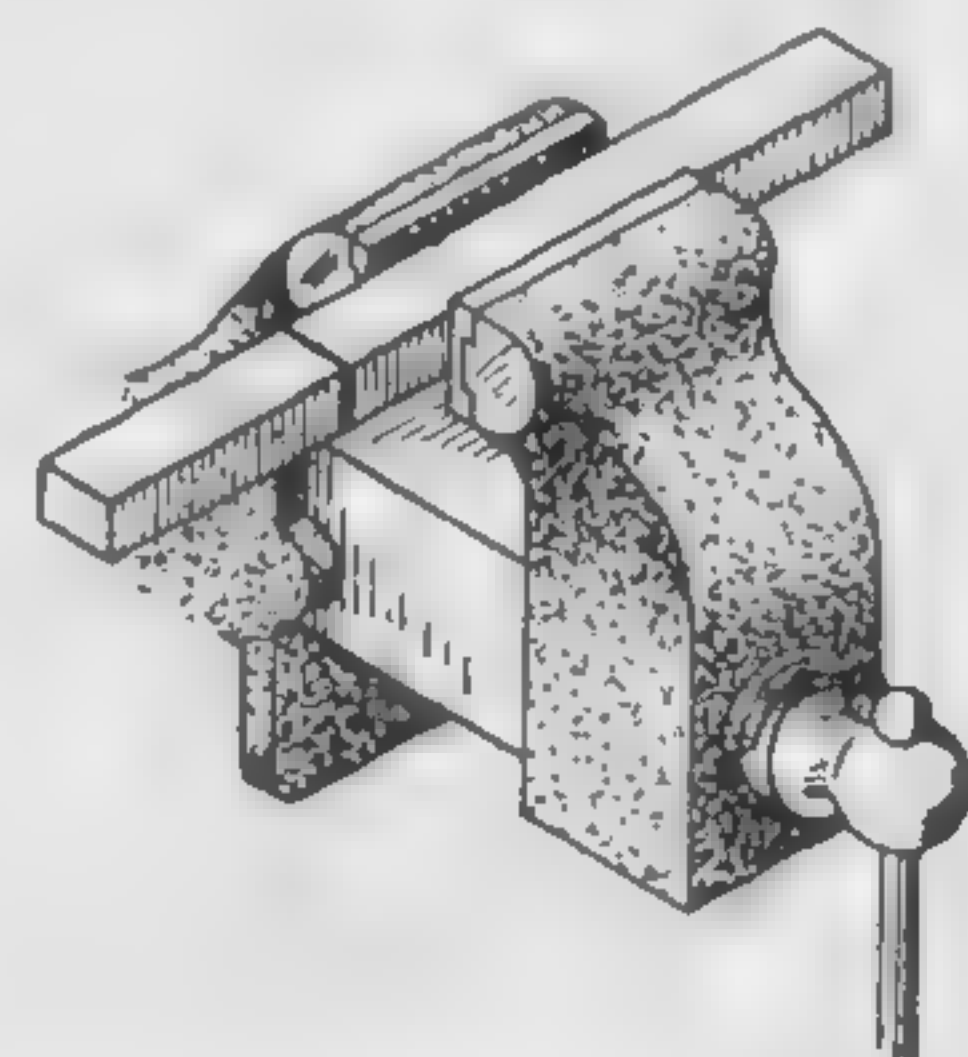

Fig. 18. Cut Parallel to Side of Vise Jaws and Near Vise Jaws
1. Hold the stock to be cut securely in a vise, so that the saw will cut about $\frac{1}{4}$ inch from the vise jaws. Cutting close to the vise prevents the stock springing. The cut should be parallel to the side of the vise, as in Fig. 18.